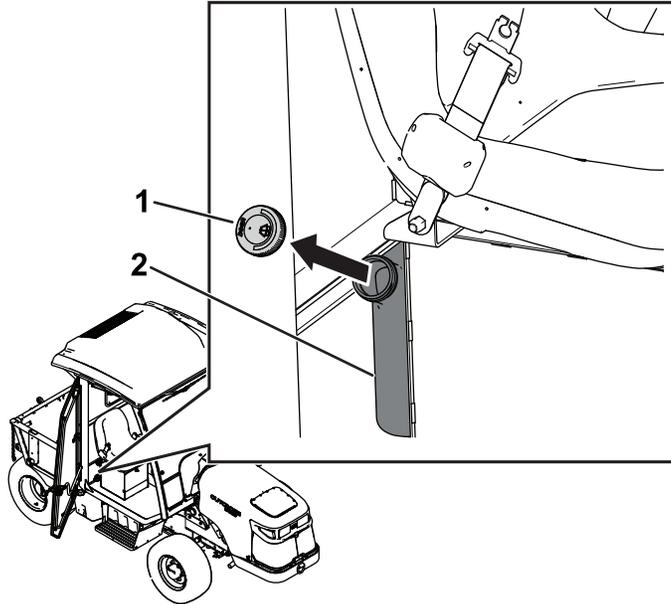

Figure 129
1. Remove the cap on the reservoir (Figure 129).